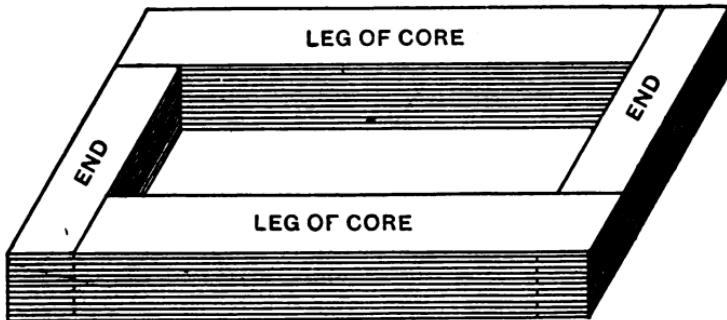
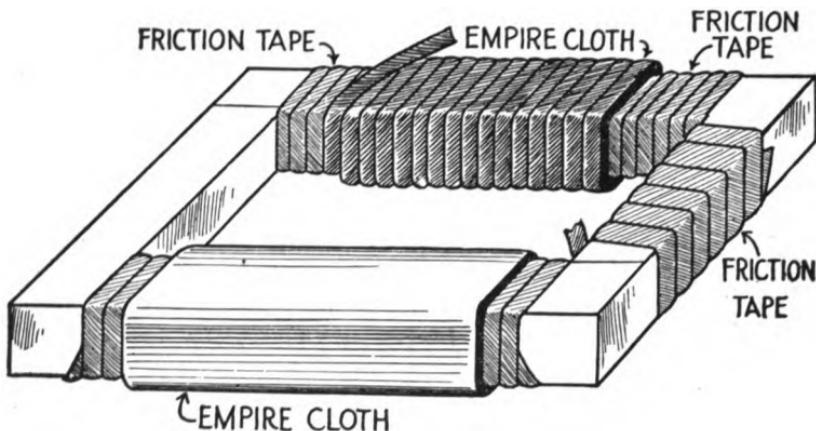

FIG. 189.—CORE OF TRANSFORMER.
FIG. 191.—HOW TRANSFORMER CORE IS INSULATED.
Next slip one end of a No. 16 Brown and Sharpe gauge, double cotton-covered magnet wire—ordinary bell wire will do—which is 25 feet or a little longer, through the hole in the cheek that is nearest the core and leave about four inches hanging out. Wind a layer of wire on the core and give it a good coat of shellac. Wrap on a layer of paper and then wind on the second layer of wire and be sure to put it on tight. This will bring both ends of the primary wire out of the same cheek as shown in Fig. 189, and this cheek should be the one through which the end of the core projects. Wrap a couple of more layers of paper round the primary coil and shellac it.
Like an induction coil a transformer has a core of soft iron, a primary coil and a secondary coil, though nearly all induction coils have *straight* soft iron cores like that shown in Figs. 178 and 179, Chapter II, Part III, while nearly all transformers have *rectangular* soft iron cores, as that shown in Fig. 189.
**The Soft Iron Core.**—The core of the transformer is made up of very thin strips of soft sheet-iron laid up in the form of a rectangle as shown in Fig. 189. Sheet-iron such as is used for making stove-pipes will do for the core and this can be bought at a tinsmith's. Have him cut it for you to the exact width and length needed with his foot-power shears so that when the core is formed it will be nice and even.
After the core is laid up as shown in Fig. 189, wrap the two sides, or *legs* and one of the ends with *friction tape*. Friction tape is the kind of tape electricians use for taping wire joints. This kind of tape comes in rolls about  $\frac{1}{2}$  inch wide. Wrap this tape on the core tightly lapping the edges of the tape, as shown on one of the ends in Fig. 191.
Now cut some *empire cloth* into strips 8 inches wide and wind enough of the strips on each *leg* of the core to make the cloth insulation about  $\frac{1}{4}$  of an inch thick. *Empire cloth* is merely a linen cloth covered with an insulating varnish. Around the legs covered with the empire cloth wrap another layer of friction tape to hold it tightly together. The legs of the core are shown in Fig. 191 covered with the empire cloth strips.